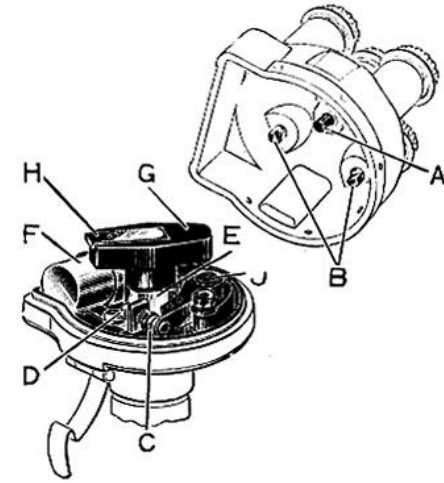

FIG. 1. DISTRIBUTOR AND CONTACT BREAKER TYPE DJ4.
(4) **Contact Breaker Pivot ("DJ" Type Distributors only).** Every 5,000 miles, place a single drop of oil on the pivot "J" (Figs. 1 and 2), on which the contact breaker works.
These distributors have one contact breaker lever. The distributor shaft carries a 2, 4 or 6 lobe cam according to the number of cylinders of the engine, and is driven at half engine speed so that the contacts open once, twice or three times each revolution of the engine. Occasionally remove the distributor moulding by pushing aside its two securing springs. See that the electrodes are clean and free from deposit. If necessary, wipe out the distributor with a dry duster and clean the electrodes with a cloth moistened with petrol. With "DJ" type distributors, see that the carbon brush "A" (Fig. 1), is clean and moves freely in its holder. Clean the outside of the moulding, particularly the spaces between the terminals. Next examine the contact breaker; it is important that the contacts "C" are kept free from any grease or oil. If they are burned or blackened, they may be cleaned with very fine emery cloth and afterwards with a cloth moistened with petrol. Care must be taken that all particles of dirt and metal dust are wiped away. Misfiring may be caused if the contacts are not kept clean.